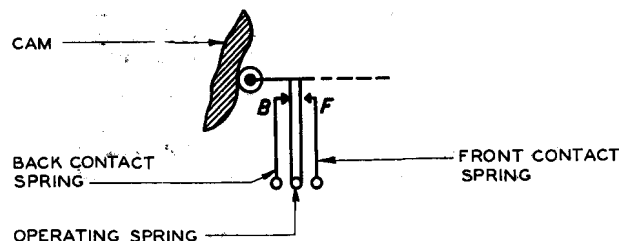

**Fig. 103 – Winding Terminal Numbering as Viewed From the Rear (wiring side) of 274-type Inductors (retard coils)**
**4.09 274-Type Inductors:** The wiring terminals of these inductors are numbered from 1 up beginning at the right as viewed from the wiring side, as shown in Fig. 103.